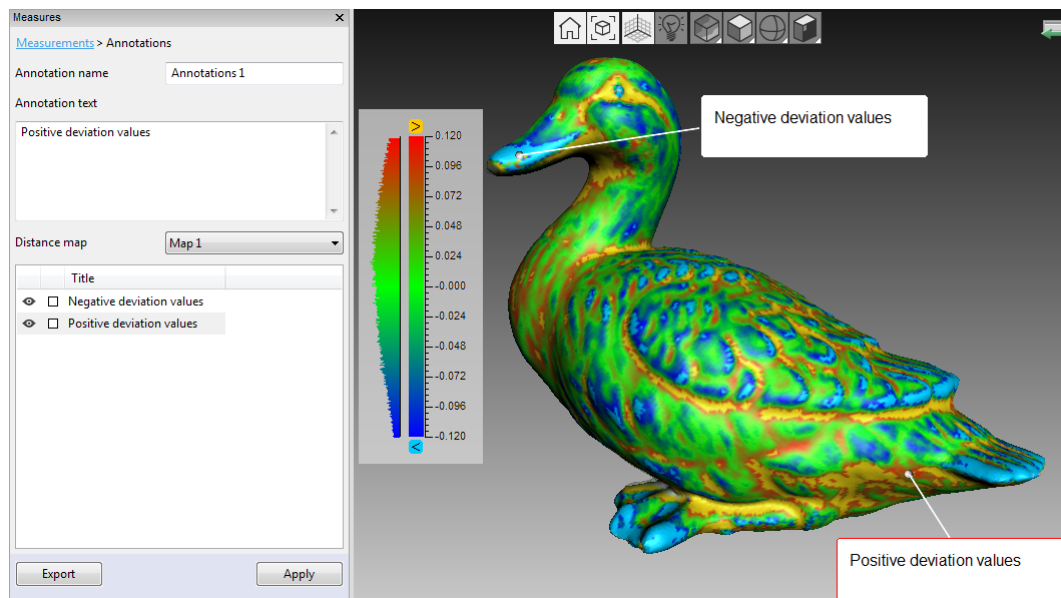

Figure 119: Annotation of a model layered with a surface-distance map.
Annotations tools allow you to mark noteworthy surfaces and surface-distance maps. The annotation can include one or more labels, which look like rectangular tags with connecting lines pointing to the corresponding surface elements (see Figure 119).
- Repeat Steps 3 and 4 to create a new label. In addition to tagging the surface, each new label will appear in the annotation list of the *Measures* panel (see Figure 119). You can show or hide labels in the list or change their colors by clicking **RMB** and selecting the appropriate option from the menu. Alternatively, toggle the selection flag  or click the square button to show/hide labels or change their colors, respectively.
- Select the label in the *3D View* window; its border color will become red (see selected label in Figure 119). Hit the **Del** key.